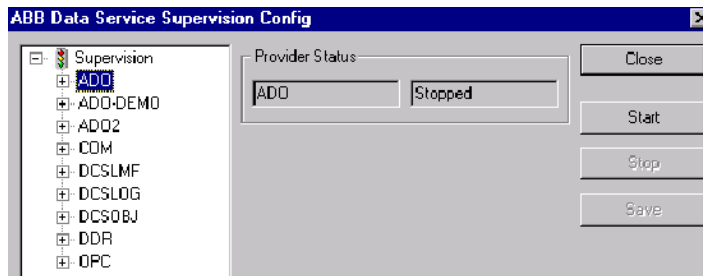

Figure 53. Selecting the Existing ADO Data Provider
3. Select the ADO data provider as shown in Figure 53.